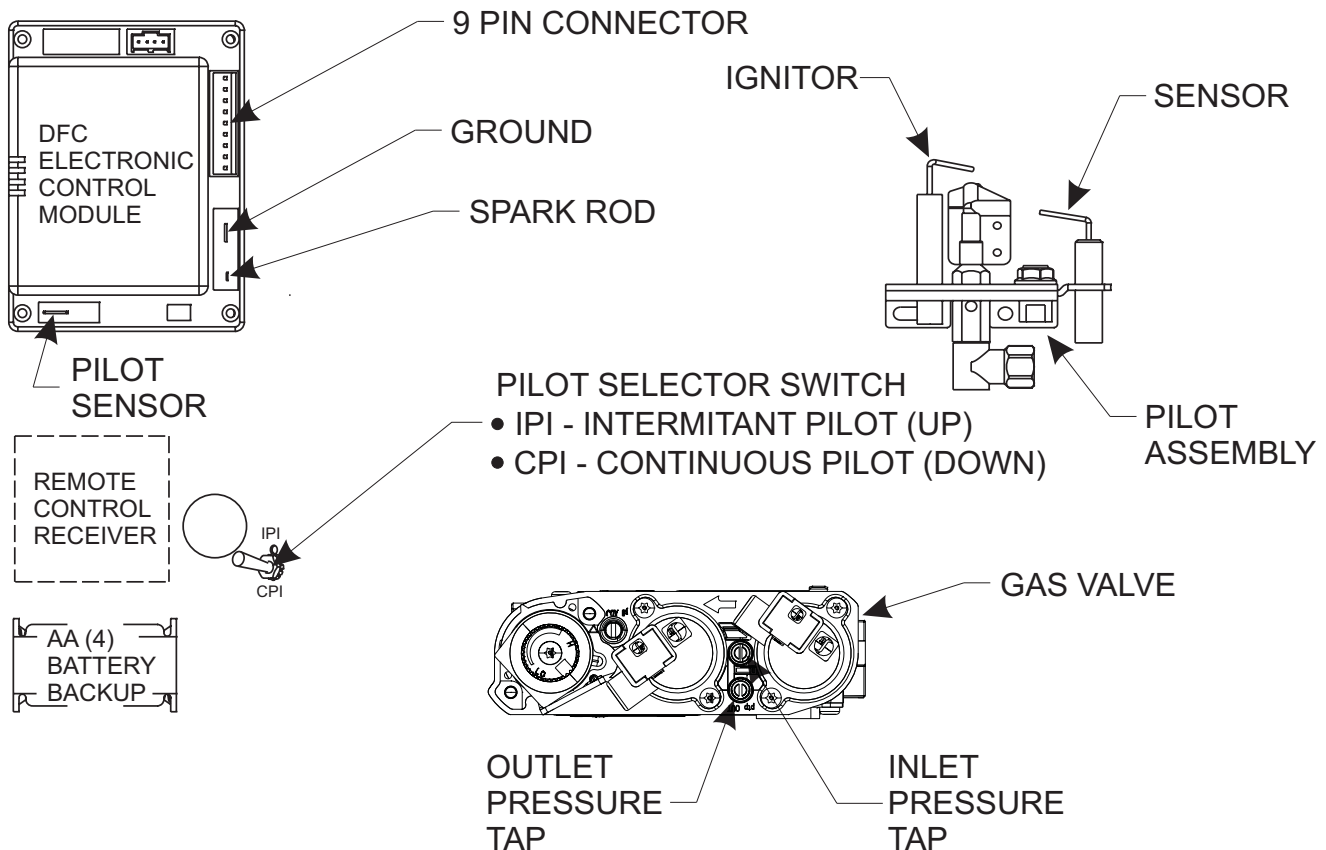

Figure 20
**NOTE:** A small toggle switch is located on a bracket that is used to switch from IPI (upward position) to the CPI (downward position). See Figure 20.
3. The gas valve has inlet and outlet pressure taps as shown in Figure 20. Refer to pages 10 and 11 for gas pressure requirements.
**NOTE:** The gas control has a manual HI/LO flame adjustment knob (regulator) that allows you to increase or decrease the height of the burner flame. See Figure 20. Rotate the HI/LO knob counterclockwise to "HI" to increase the flame height, and clockwise to "LO" to decrease the flame height.